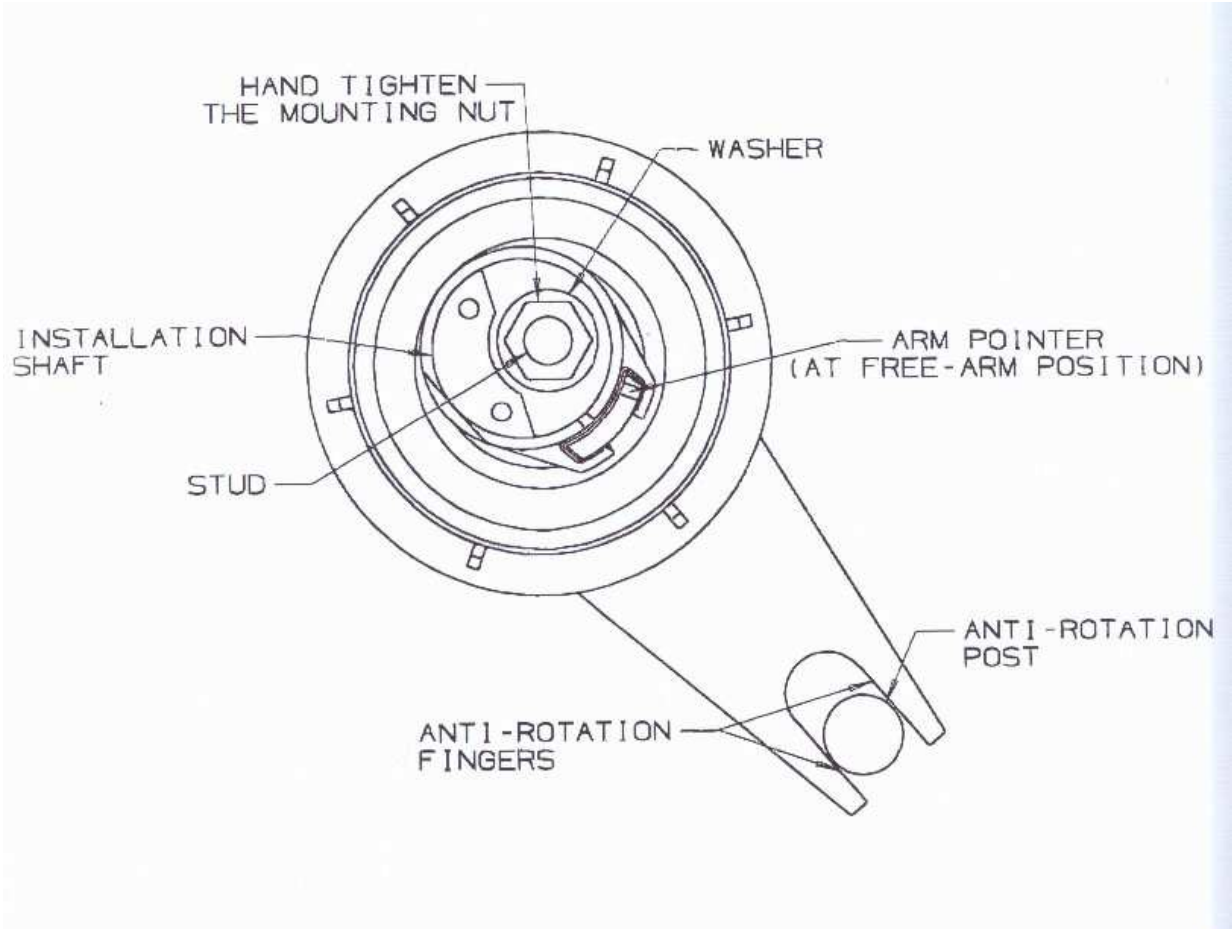

Figure 1: Tensioner shown at Free-Arm position placed on the mounting surface
3. Place a new tensioner onto the engine. Tensioner's *Anti-Rotation Fingers* should fit over the *Anti-Rotation Post* on the engine (See Figure 1).
4. Rotate the *Installation Shaft* until its two holes are pointing at the "8 O'clock position" then hand tighten the *M8 Mounting Nut* (Also See Figure 1).
10. Engage the *Installation Tool* and retain its position while loosening the *Mounting Nut* with the *Wrench*. The *Mounting Nut* and the *Tensioner* do not need to be removed. Rotate the *Installation Shaft* COUNTERCLOCKWISE with the *Installation Tool* until the *Arm Pointer* returns to the *Free-Arm Position* (See Figure 1). Follow step #5~9.